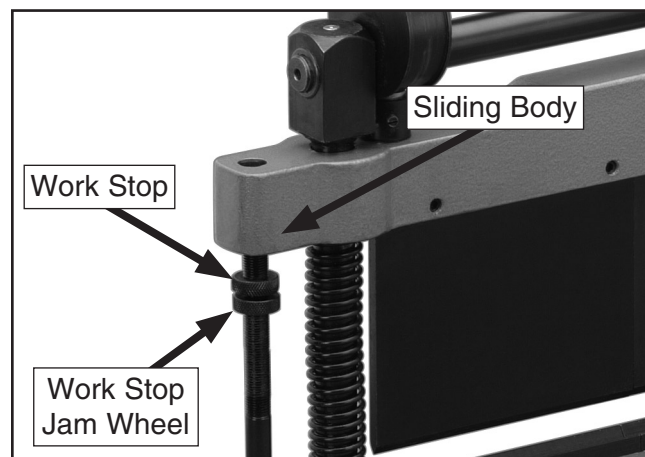

Figure 7. Work stops (left side shown).
1. Follow the **Basic Operations** on **this page** to create the desired bend. Before releasing the handle, turn the work stops until they are against the sliding body of the machine. Make sure the work stops on each side of the machine are adjusted equally (**Figure 7**).